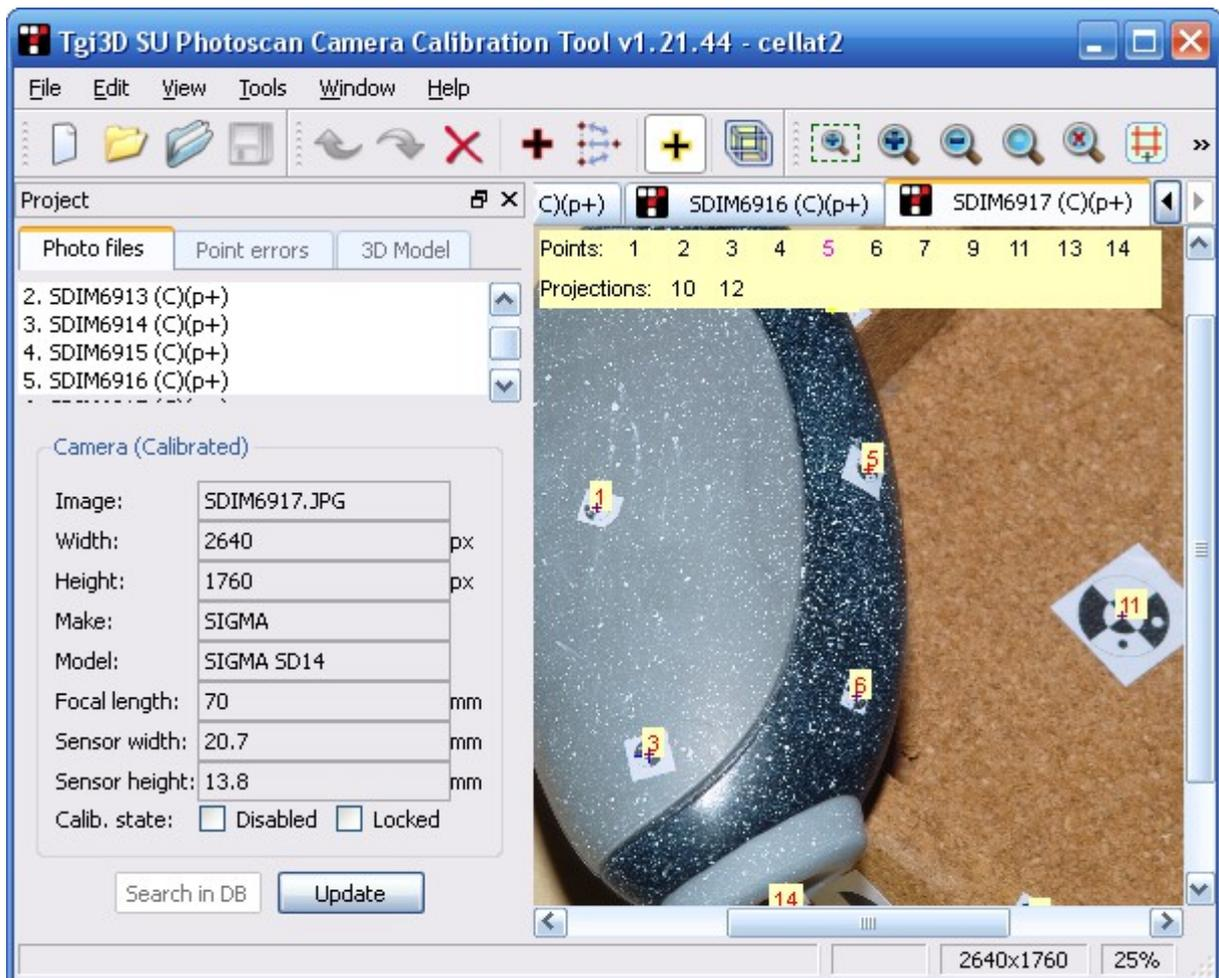

Figure 4: Navigating calibration points.
Pressing and holding 'M' key in a photograph will bring an overlaid sub-window (on the top left corner of the image window) displaying 3D calibration point ids (i.e. Matched Point IDs) or projections as shown in Figure 4. These numbers are selectable with a left-mouse-click. If you select a point or match group or a projection, all corresponding points in the photographs in that group will be selected .
- Pressing and holding 'Q' key will display matched point ids of all points as shown in Figure 4